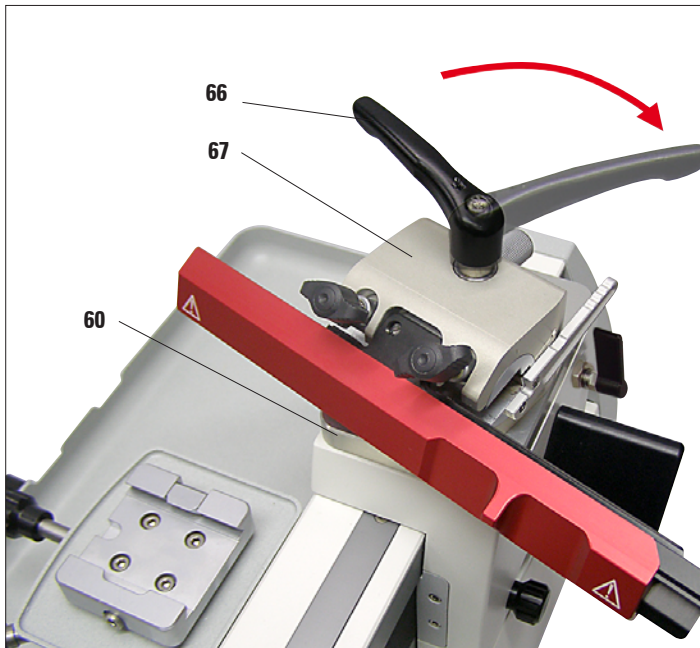

Fig. 12
- Continue turning the clamping lever (66) in a clockwise direction until the knife holder is firmly screwed on (Fig. 12).